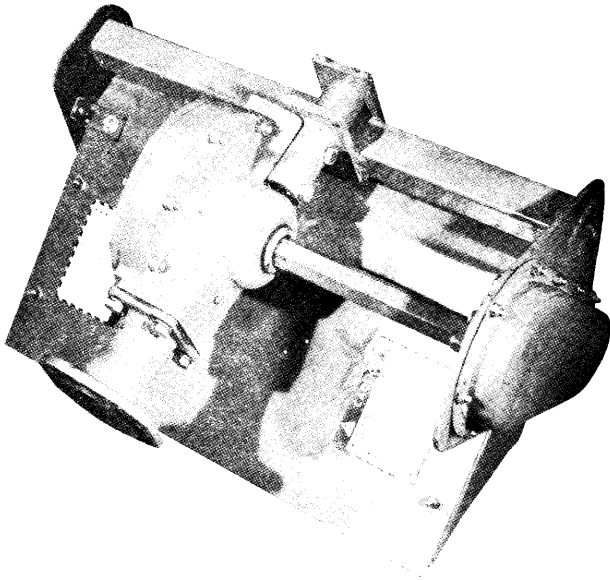

Fig. 1
2. Secure the drive to the frame weldment with the two bolts. See fig. 1.